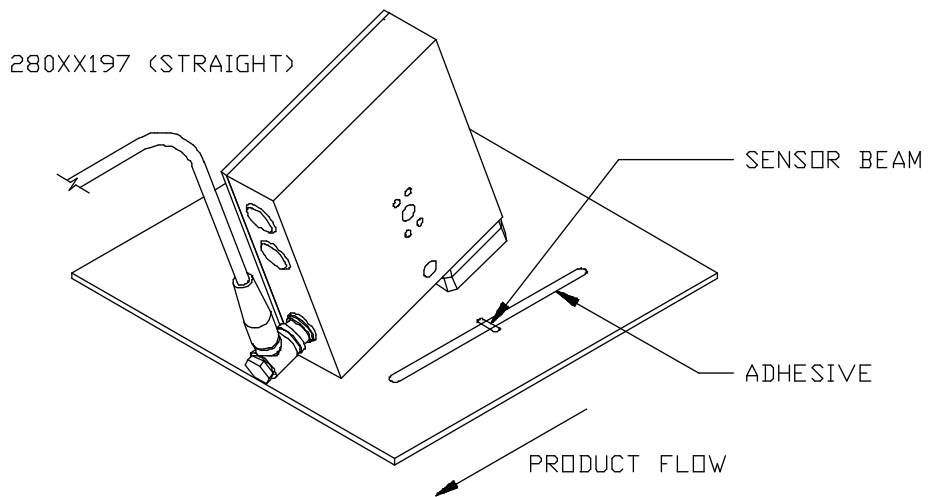

Figure 5-20. AS-601 "Straight" Sensor
- Straight sensor (280xx197) (Figure 5-20)